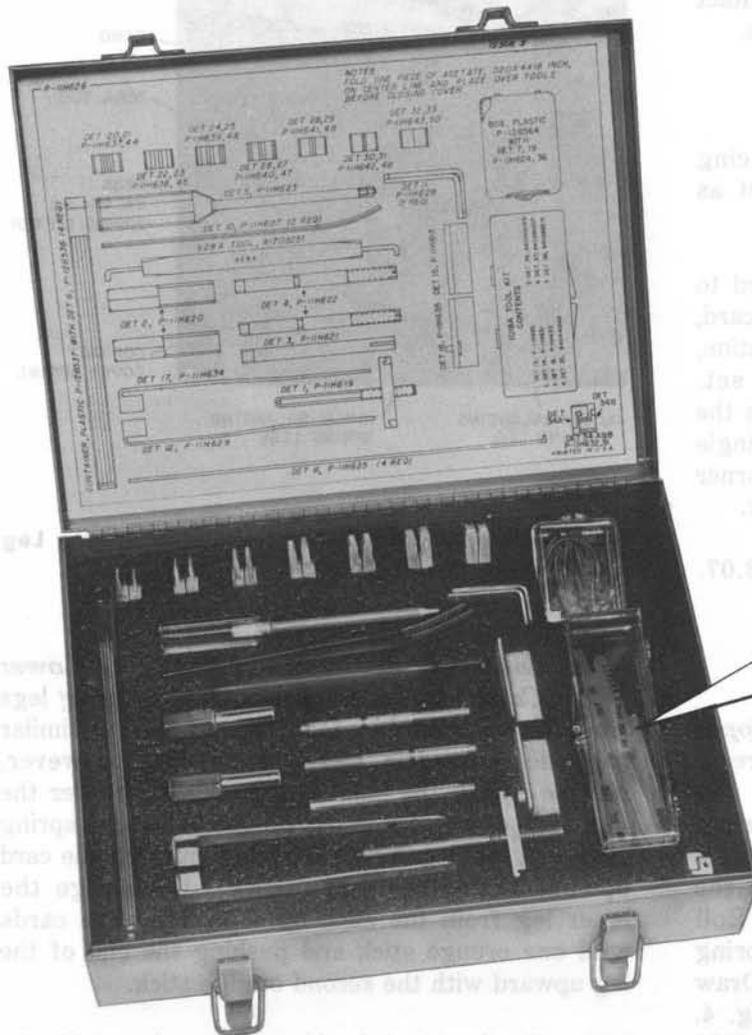

Fig. 2—1017A Tool Kit Including 1018A Tool Kit
- 3.02 Fig. 2 shows the tools comprising the 1017A and 1018A tool kits.